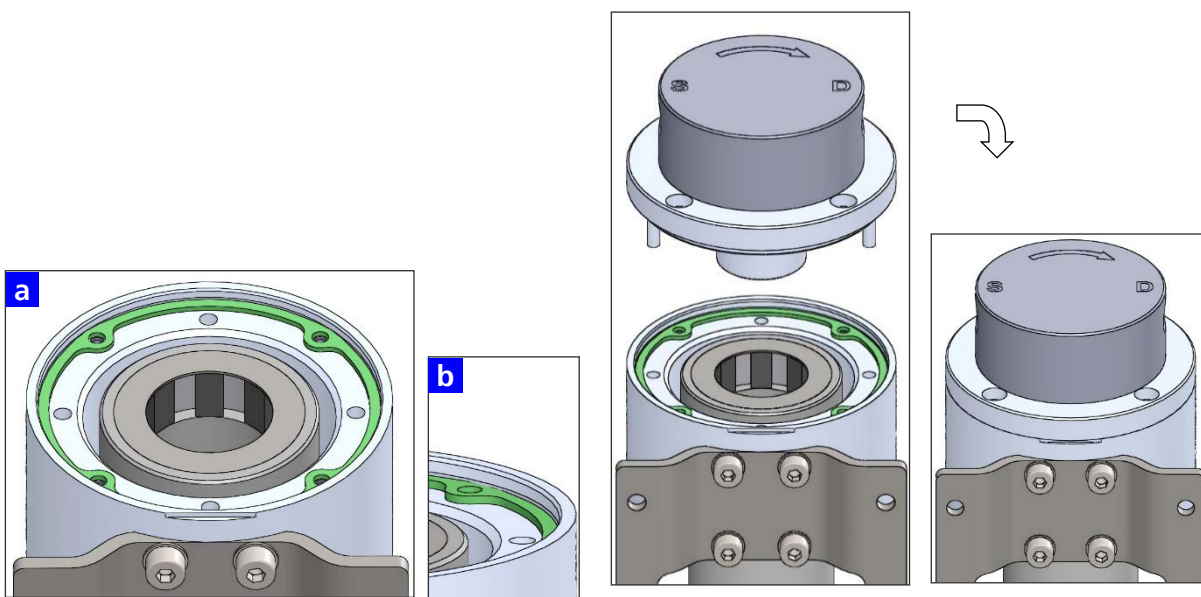

figure 2
1. Insert sealing gasket: Check the sealing gasket for damage and replace, if necessary. Place the sealing gasket in the cavity (Fig. 2 **a**) of the clutch bell - the boreholes of the sealing gasket must match the threaded holes in the clutch bell.